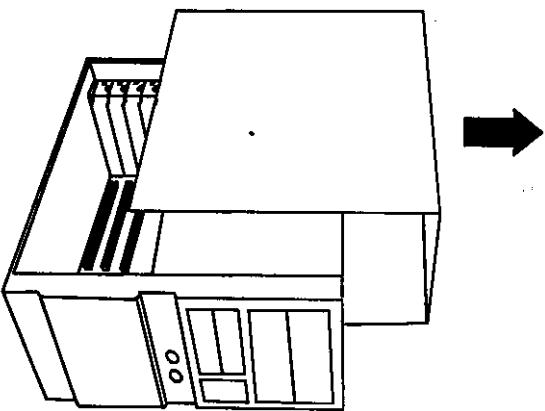

Figure 6. Remove Computer Cover
3. Remove the cover of your computer by removing the cover screws, typically located at the back of the computer (Figure 6).